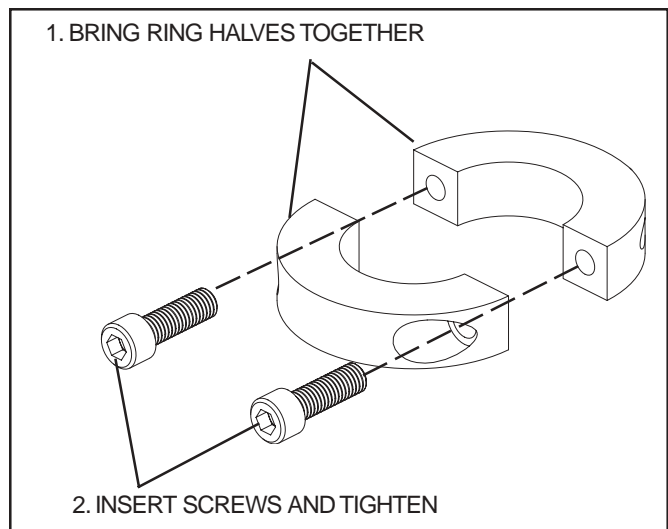

Figure 5. Split Ring Collar Assembly
2. Assemble the split ring collar. **See figure 5.**